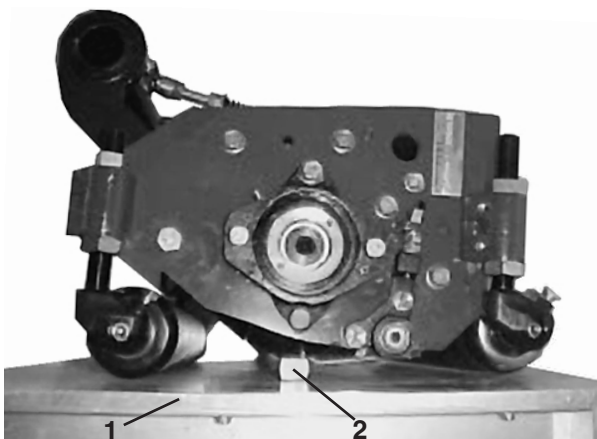

Figure 11
- Rock the cutting unit forward (on the reel blades and steel bar) until the front roller contacts the flat surface. The reel blades and bedknife must maintain contact with the bar. The rear roller should not contact the surface (Fig. 11).